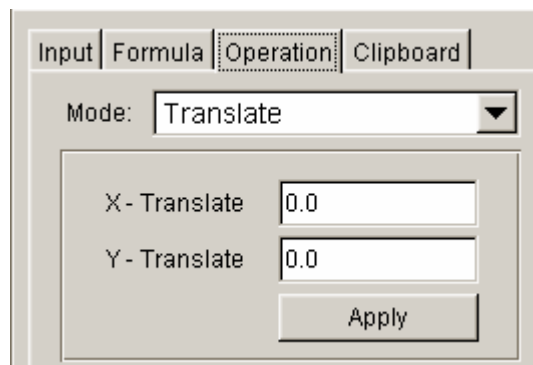

Figure 8.2.68 Curve Operation
**CLOSURE** Allow the user to use the closure time of two tools as the duration time. The user needs to select two reference tools from tool list as shown in Figure 8.2.68.